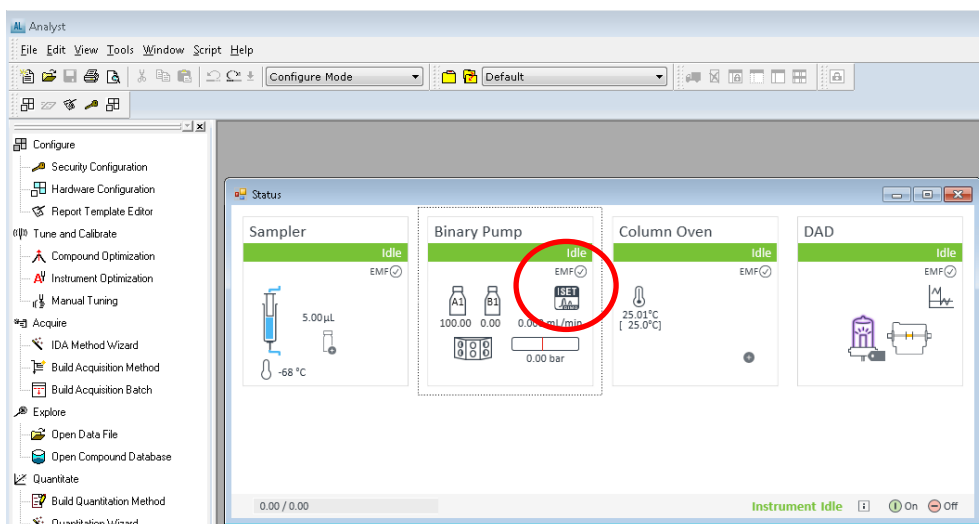

Figure 12 ISET pictogram in pump status tile of the LC status dashboard – enabled
- If ISET is available and enabled, the ISET pictogram in the LC status dashboard is black (see Figure 12 on page 11)